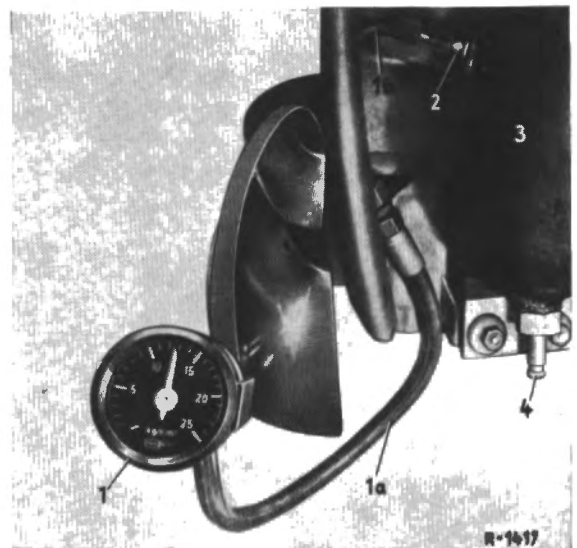

Fig. 32-15/3
9. Connect a suitable pressure gage (1) to the filler valve (2) of the air reservoir (Fig. 32-15/3).
10. Reduce the pressure to 12 atm at the drain valve (4) of the air reservoir. Then run the engine at a speed of approx. 2,000 rpm. Measure the time required to raise the reservoir pressure from 12 atm to 14 atm (for values see Job No. 32-0).